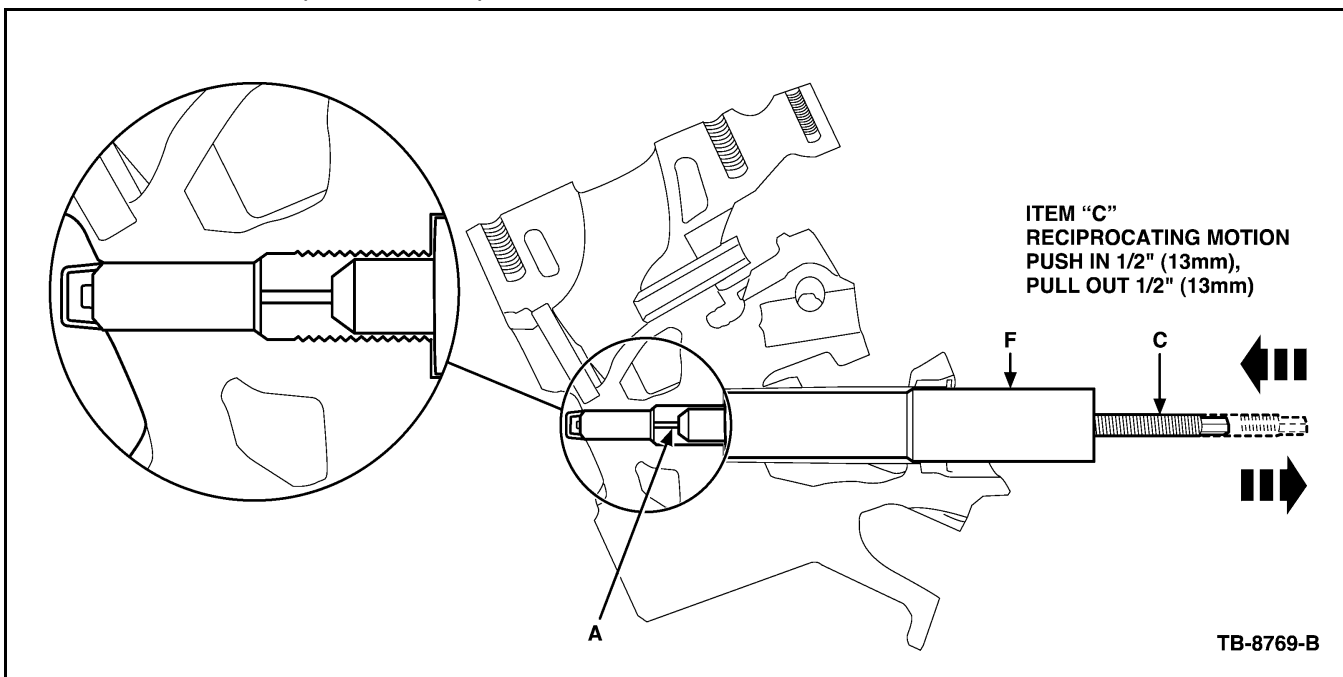

Figure 16 - Article 08-7-6
7. Scrub the porcelain inside diameter by moving the threaded rod up and down vigorously. Take care making sure the pin does not disengage the porcelain. (Figure 16).